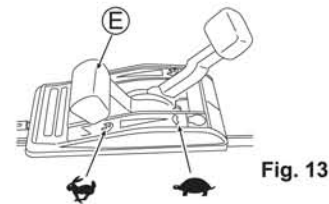

Fig. 13
- Confirm that there is no person behind you when pulling Starter knob (V).
- Securely grab Starter knob (V) when you pull it.
- Return Starter knob (V) slowly.
5. Warm up the machine before use. After the engine has warmed up, start mowing by setting Throttle lever (E) to "←". (See Fig. 13)